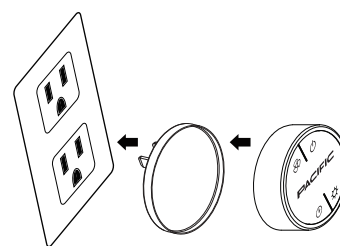

FIG. 1
3. Add and secure wood blockings (minimum 2x4 studs) between ceiling joists for ceiling bracket and telescopic rod couplers if needed. FIG. 1.
The RF remote control is equipped with a magnet on the back for easy storage. The remote may be placed on any magnetic surface such as a refrigerator or the remote holder, FIG. 1. The remote holder can be inserted into a standard electrical outlet for easy storage. Note: The remote holder does not charge the RF remote.